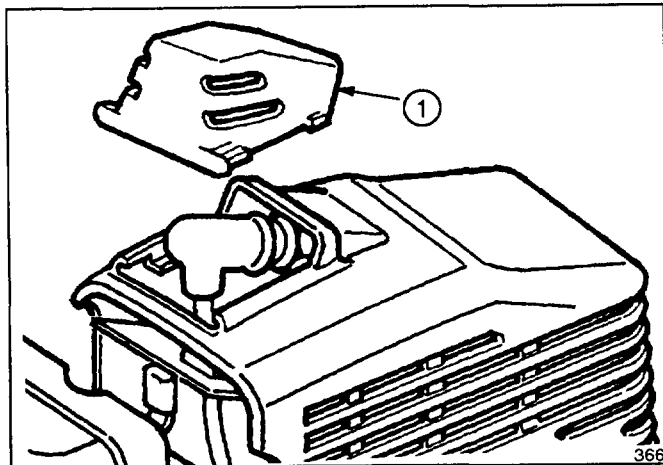

Figure 16
REPLACING SPARK PLUG (Fig. 16)
1. Stop engine. Remove spark plug cover by squeezing sides and sliding off engine cover (Fig. 16). Pull wire off spark plug.
1. Drain gasoline from fuel tank. Remove spark plug cover by squeezing sides and sliding off engine cover (Fig. 16). Pull wire off spark plug.